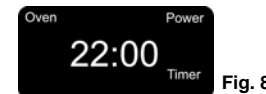

Fig. 8
- Press the "Timer/Temp" button and then the "Increase/Decrease" button to set the desired cooking time. (Fig. 8)